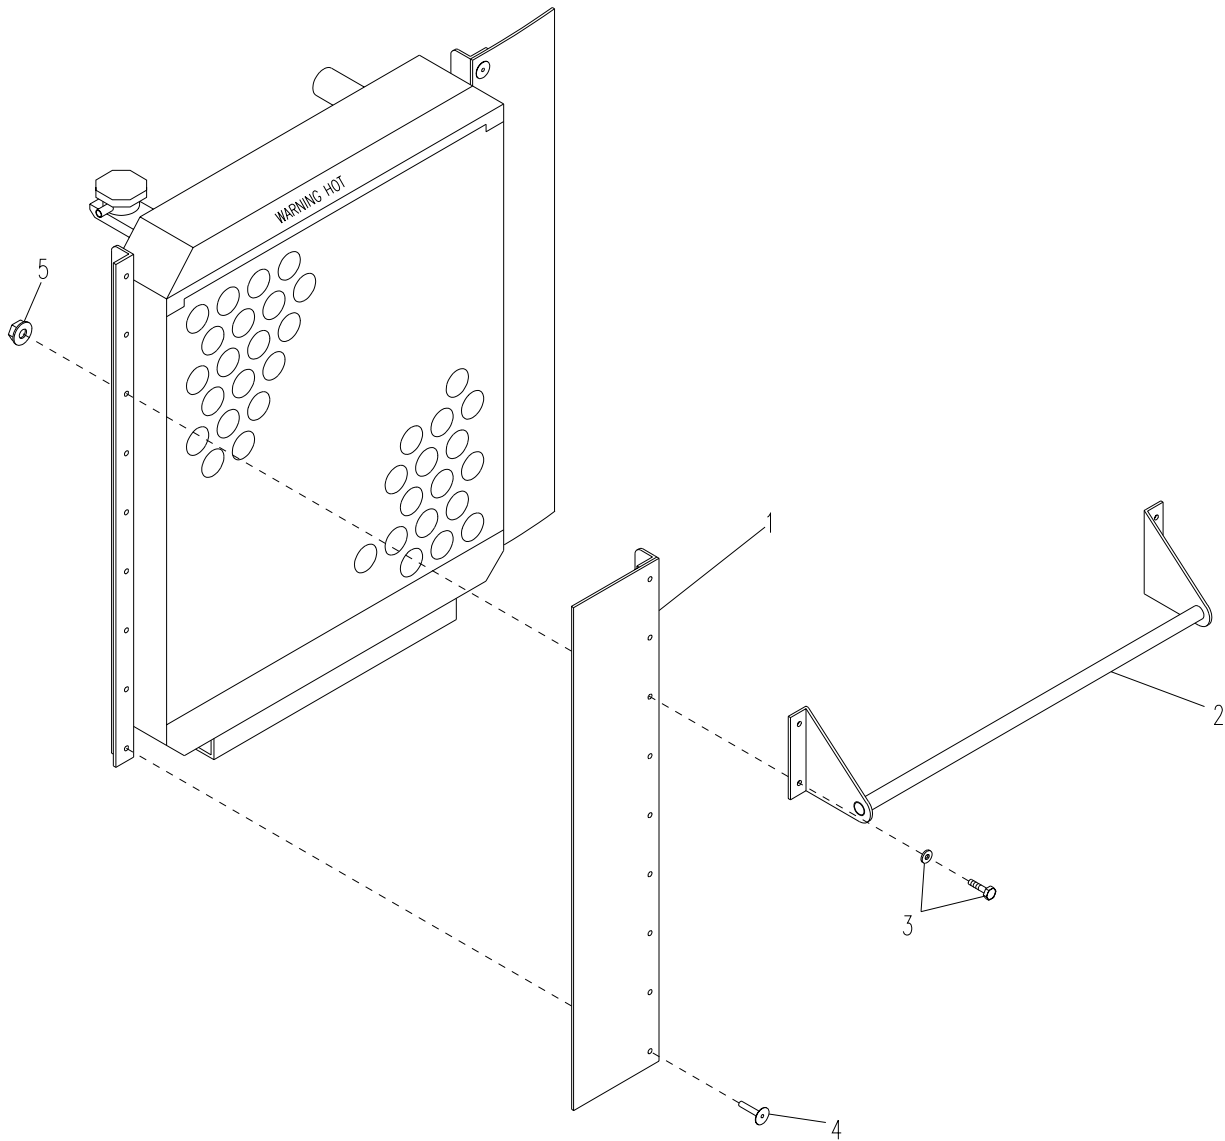

Figure 6-29. Radiator Seal Faring
- a. Set up a drill with a 3/16-in. bit dia. Drill out the heads of 14 rivets (4, Figure 6-29).
- b. Remove rivets (4). Use a punch if necessary.